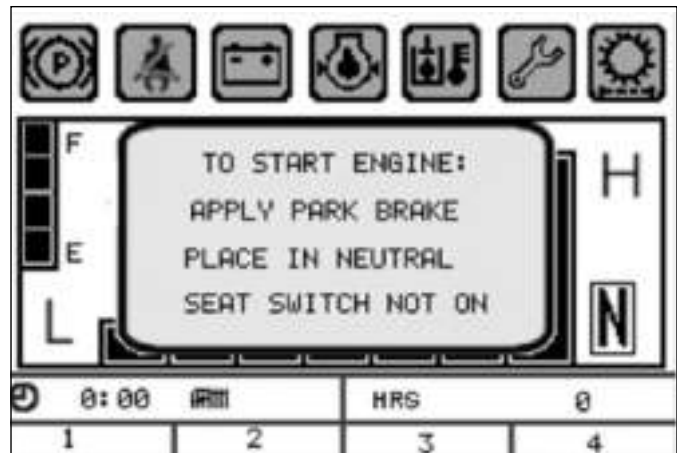

Figure 4-22: Display When Ignition On, Forklift Not Started
2. The display shown below will be shown with the ignition on, before the forklift is started. See Figure 4-22.